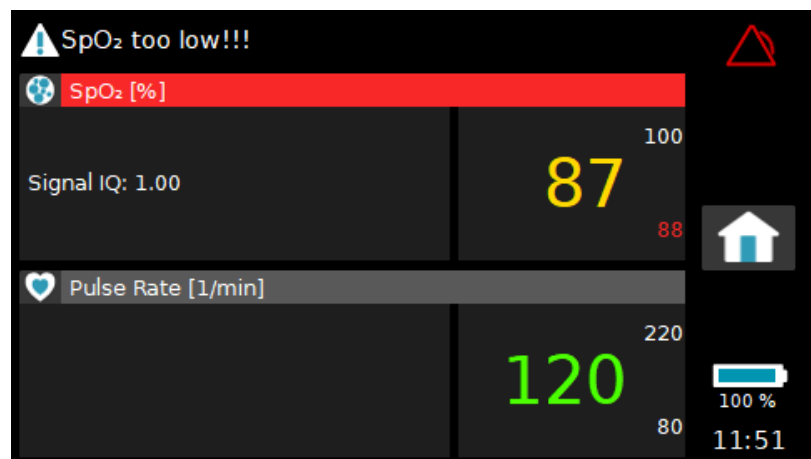

Fig. 32 Information on the Monitor Screen during a Patient Alarm
- the monitor screen outputs the following visual information, as shown in Fig. 32: